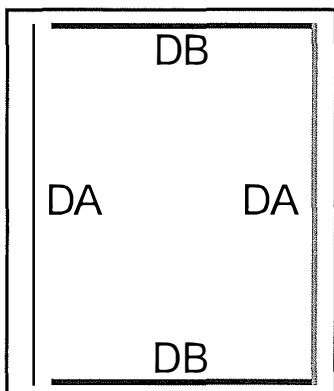

Fig 1
- 2 Lay out the parts DA and DB as in fig 1. The 25mm edge to the work surface. Parts DB must be inside parts DA.